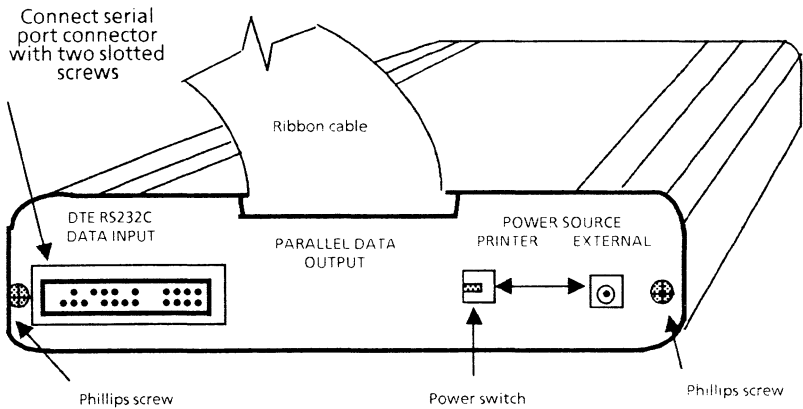

Figure 4-6 Print buffer (rear view)
6. Connect (with slotted screws) the opposite end of the Xerox-supplied cable to the RS232C serial port connector on the back of the print buffer (Figure 4-6). To ensure proper connection to the print buffer, gently tighten the screws.
2. Locate the power switch on the rear of the print buffer (Figure 4-6).